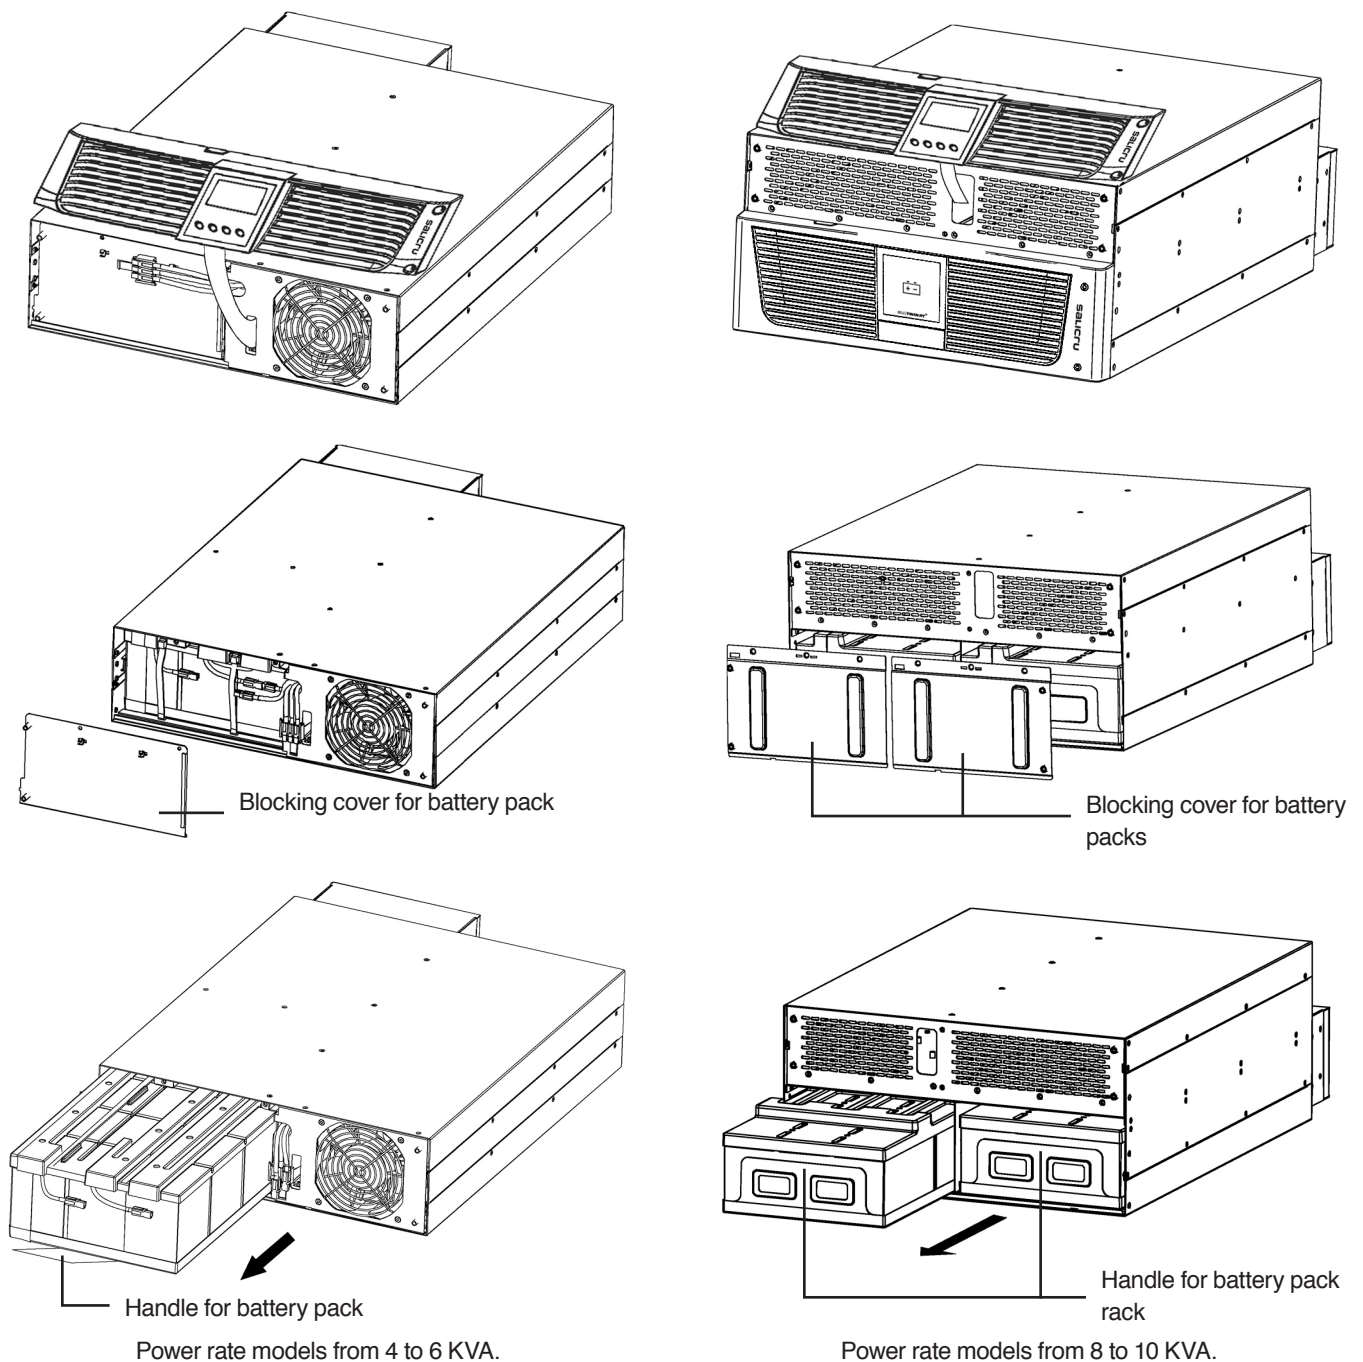

Fig. 4. Battery pack/s removing.
Proceed as follows to remove the battery block or pack, based on one pack for 4 to 6 kVA models and two packs for 8 and 10 kVA models (see figure 4):
- To make easier the message reading when the equipment is vertically installed, it is advisable to rotate 90° clockwise the control panel with LCD (see figure 4).